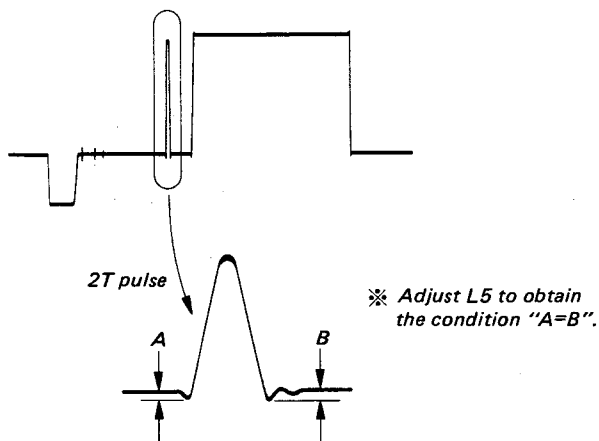

Fig. 5-68.
4. Adjust L5 on the B board so that A is equal to B as shown in Fig. 5-68.